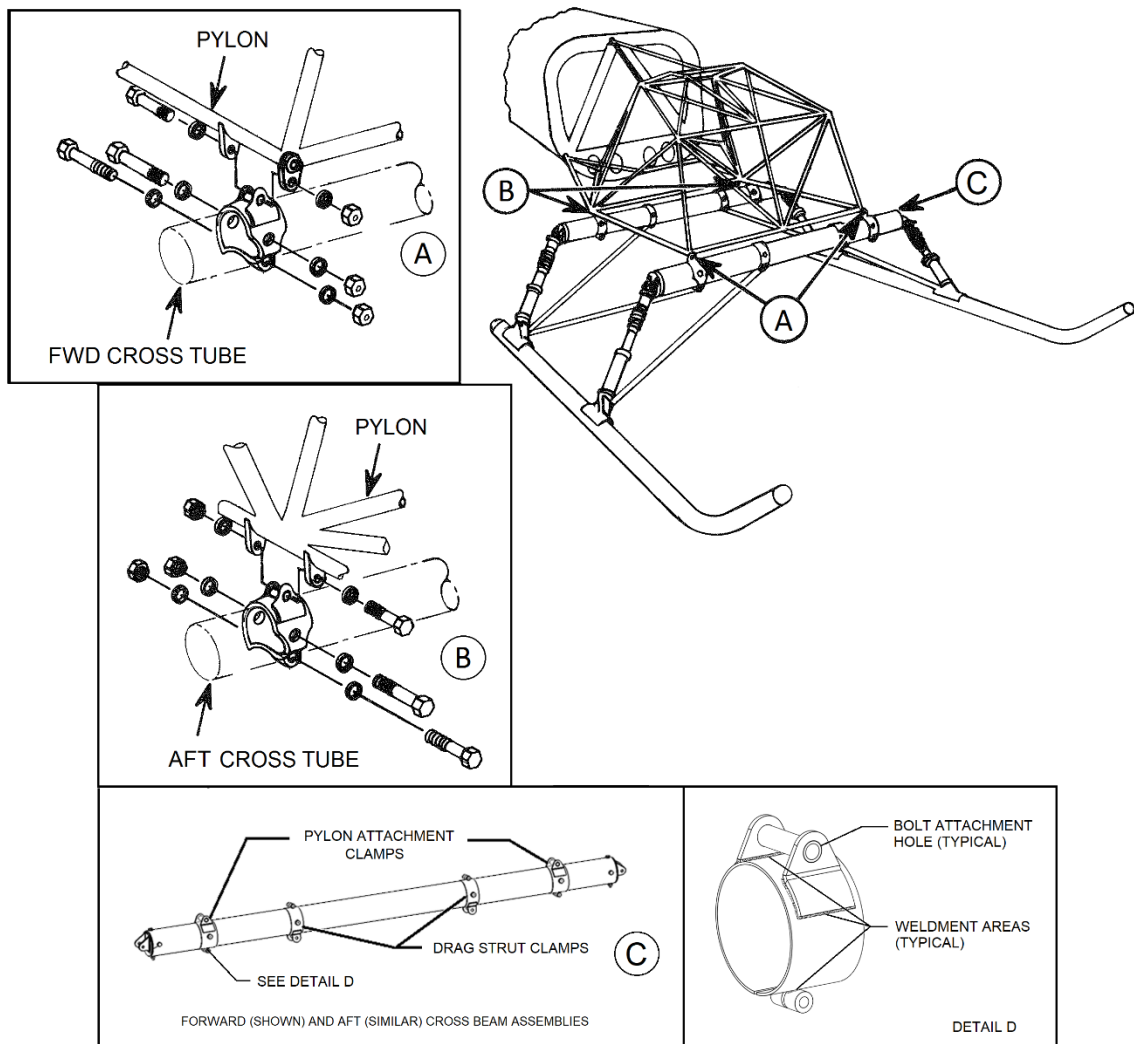

Figure 8-7. Landing Gear to Pylon Attachment and Cross Tube Clamp Detail
- (c) To remove the landing gear assembly as a unit from the pylon, proceed as follows: (See Figure 8-7)
(b) Install the landing gear assembly in reverse order of steps (1), (a) through (c). Refer to Figure 8-7 for proper bolt orientation.